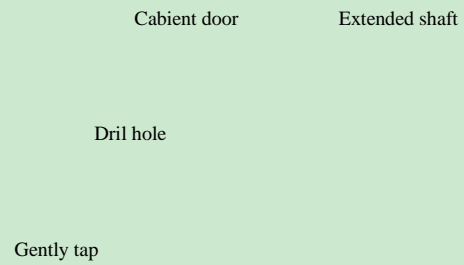

Fig. 24: Diagram
(4) As illustrated in Fig. 24, tap the contact point between the cabinet door and the top of the extended shaft outside the cabinet with a hand hammer to determine the center of the drill hole, drill a $\phi 6$ hole at the center of the drill hole from the inside of the cabinet to the outside, and then ream the hole to $\phi 30$.